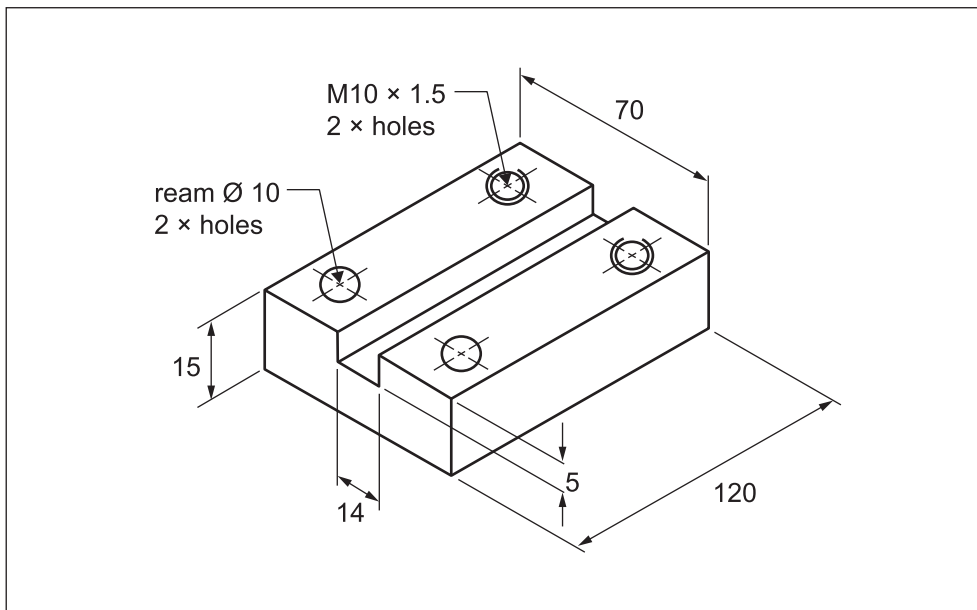

Figure 8
Figure 8 shows a component that will be made using a vertical milling machine and a pedestal drill.
- a. Use the tapping chart shown in Figure 9 to determine the tapping drill size required for the threaded holes of the component shown in Figure 8. 1 mark
- b. i. The slot in the component shown in Figure 8 will be milled in one pass using an end mill. What diameter end mill is required for this slot? 1 mark
- ii. Calculate the revolutions per minute (RPM) needed for the end mill to cut the slot for the component shown in Figure 8, using a cutting speed of 30 m/min and the following formula for RPM. 1 mark
- d. There are two reamed holes in the component in Figure 8. Explain the purpose of reaming compared to drilling. 1 mark